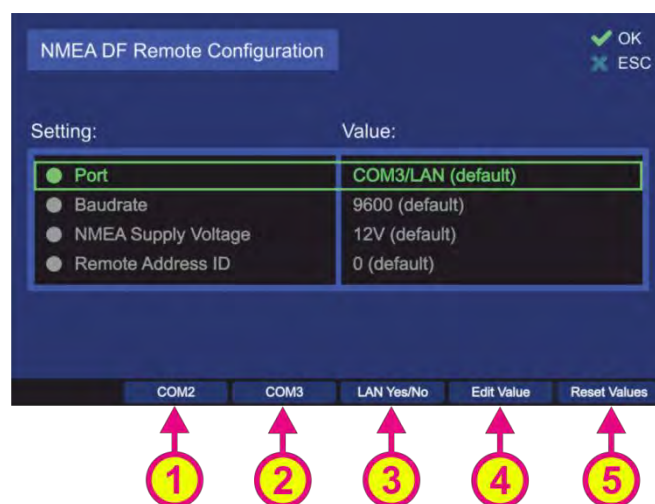
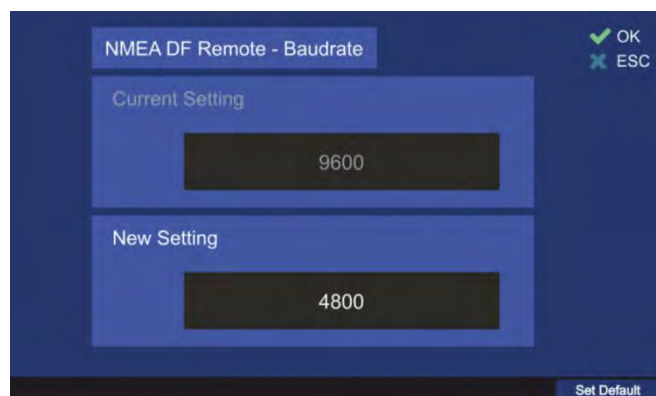

Figure 109. NMEA DF remote control configuration
Figure 111. Remote control baud rate configuration
- o Additionally, by choosing the combination "COMx¹ / LAN", the NMEA sentences will be also sent via the LAN connection (s. Figure 109, position 3).
Following sub-menu will appear (s. Figure 109).
Pressing the hotkey “Reset Values” (s. Figure 109, position 5) will set all menu items to default values. To exit the dialog confirming all changes that have been made within the sub-dialogs for single settings, press “OK”.
- o For changing the communication port, press either the hotkey “COMx” (s. Figure 109, positions 1 and 2) or the hotkey “Edit Value” while the menu item “Port” is marked (s. Figure 109, position 4).
- o Pressing the hotkey “LAN Yes/No” (s. Figure 109, position 3) will turn on the additional communication over LAN (pressing this hotkey again will turn the LAN communication off, see also 7.4.4.2).
This setting will only set the corresponding communication port. Additional transmitting the NMEA sentences over LAN should be set in the top level menu (s. Figure 109, position 3).
- o To change the baud rate, press the hotkey “Edit Value” while the menu item “Baudrate” is marked (s. Figure 109). The corresponding sub-dialog will be opened (s. Figure 111).